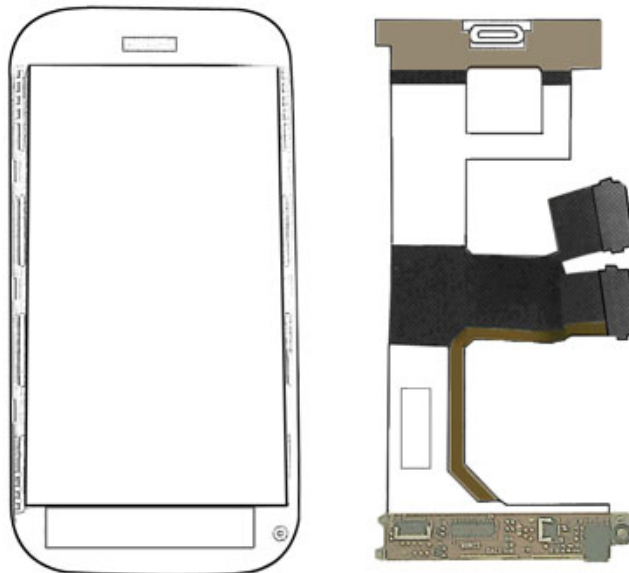

Figure 7
- You can now remove the main FPC from the back of the unit. The removed FPC is shown in figure 7.